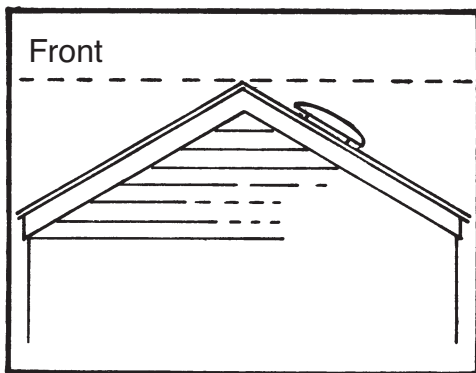

FIG. 1
1. The unit should be installed as close to the center of the roof ridgeline as possible on the rear slope of the roof. The uppermost portion of ventilator dome should be just below ridge level. See Fig. 1.